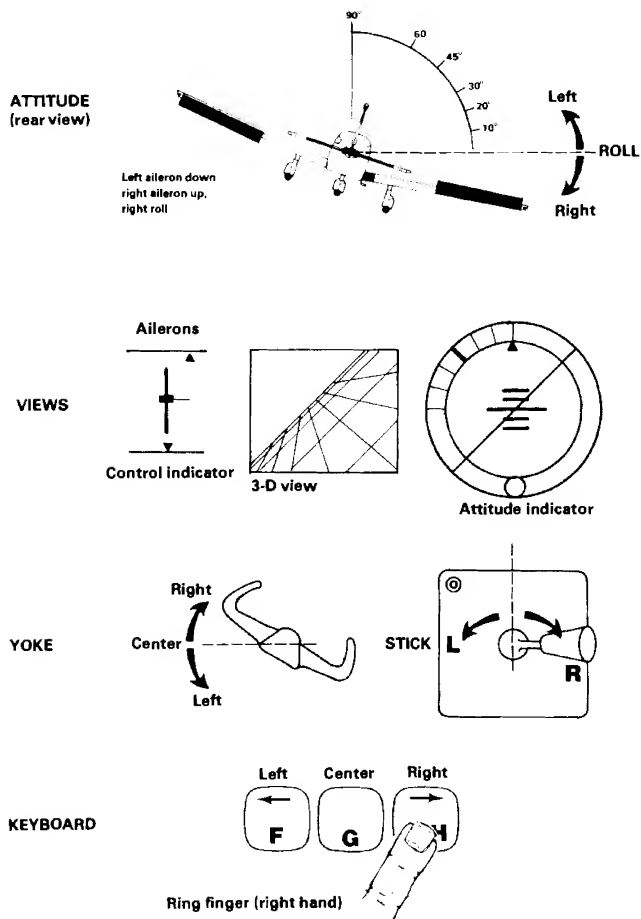

Figure 3. Allerons - Controls and Effects
Figure 3 shows the yoke's aileron control function and effects.
3. With your index finger, press the F key 3 times. Rock your hand about the G key as you would move a joystick to press F.
4. Notice the aileron control indicator (see Fig. 3) move to the left.
6. Try right ailerons (H) key, and move the aileron indicator right and left without using the center key. The center key is only a convenience to let you quickly move the ailerons to center position.